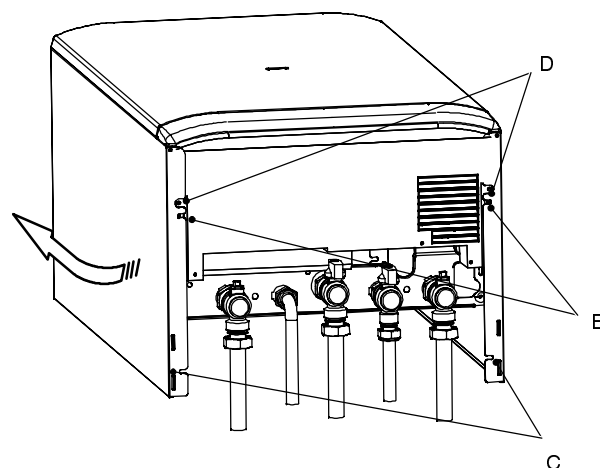

Fig. 3 – bottom view of the boiler
To remove the side panels loosen the screws B and C (Fig. 3), bring the base of the panels away from the boiler and lift them, freeing them from the top hooks.
- 2 Loosen the screws B and C (Fig. 3).